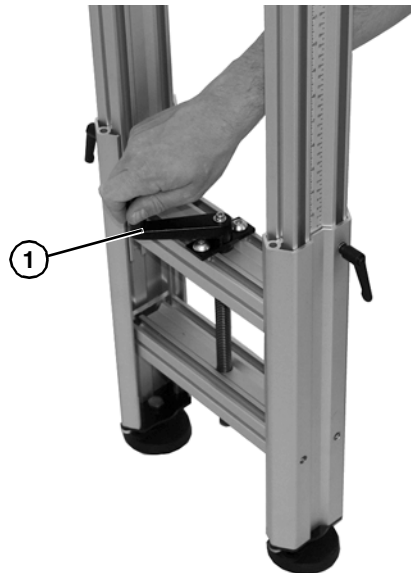

Figure 3
2. Raise or lower stand leg by turning adjustment crank (Figure 3, item 1) to the required height.